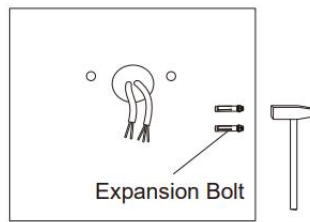

Figure 20
Step 2: Knock the expansion bolts into the wall.(Figure 20)